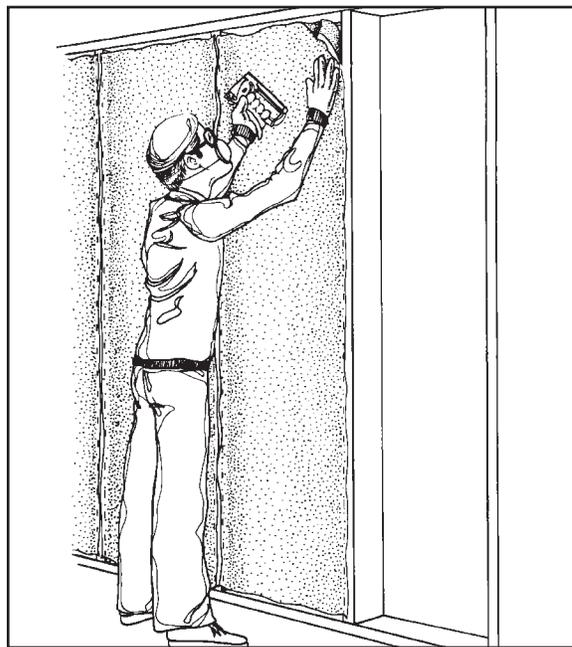

Figure 5:
**Batts and blankets:** On walls, begin at the top and work down. If you use batts or blankets with a facing (air-vapor retarder), place the retarder toward the inside of the house. Fit the insulation snugly between the wood frame studs, cut off the excess length where necessary, and staple or tack the facing to the edge of the stud. Use a broad blade putty knife to “tool” the batt into the stud cavity. (Figure 5) Where there already is some insulation, place batts over existing insulation. After the insulation is in place, cover the entire wall with 6 mil polyethylene to serve as a vapor retarder.